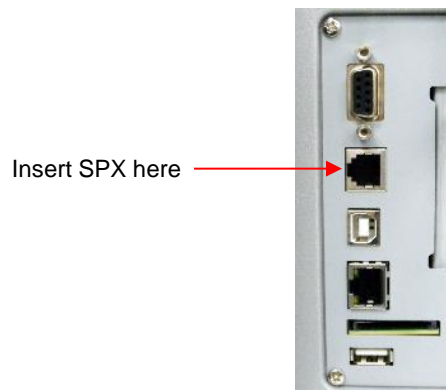

Figure 12 Inserting The SPX into the Debug Port
2. Refer to *Figure 12* to locate the debug port at the rear of the printer.